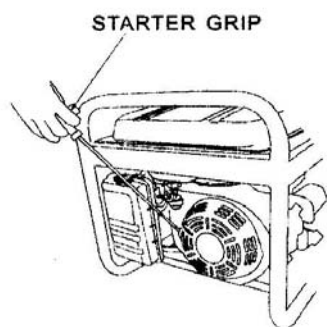

Figure 8- Pulling the start cord
6. Pull on the recoil starter handle slowly until a slight resistance is felt (see figure 8). Then pull quickly to start the engine. Return cord gently into the machine. Never allow the cord to snap back.